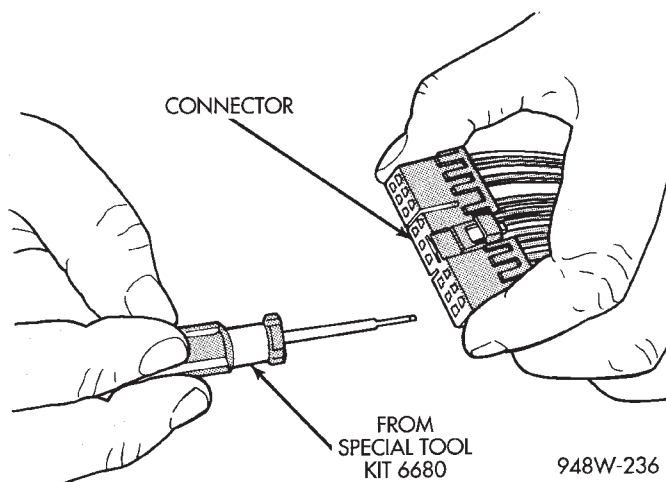
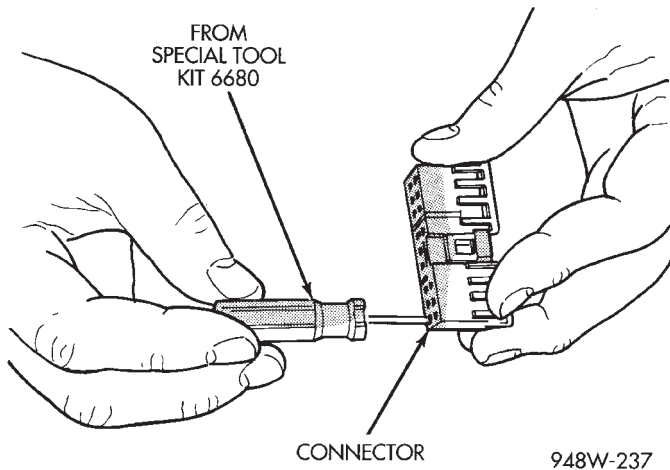

Fig. 20 Terminal Removal
Fig. 21 Terminal Removal Using Special Tool
- (4) Position the connector locking finger away from the terminal using the proper pick from special tool kit 6680. Pull on the wire to remove the terminal from the connector (Fig. 20) (Fig. 21).